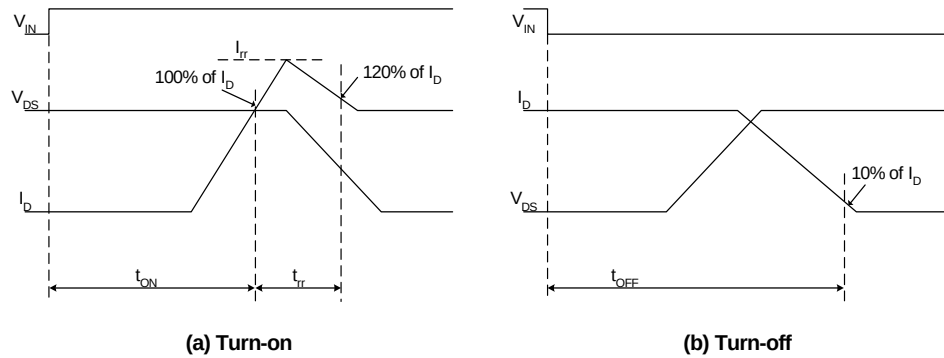
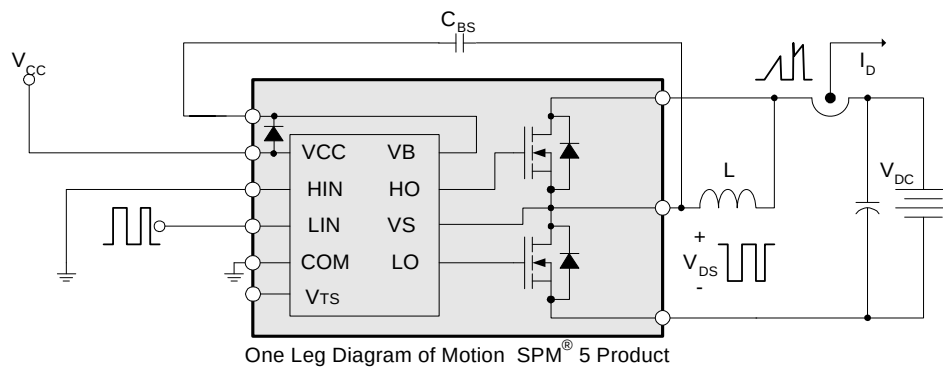

Figure 6. Switching Time Definitions
Figure 7. Switching and RBSOA (Single-pulse) Test Circuit (Low-side)
2. t_{ON} and t_{OFF} include the propagation delay of the internal drive IC. Listed values are measured at the laboratory test condition, and they can be different according to the field applications due to the effect of different printed circuit boards and wirings. Please see Figure 6 for the switching time definition with the switching test circuit of Figure 7.
3. The peak current and voltage of each MOSFET during the switching operation should be included in the Safe Operating Area (SOA). Please see Figure 7 for the RBSOA test circuit that is same as the switching test circuit.